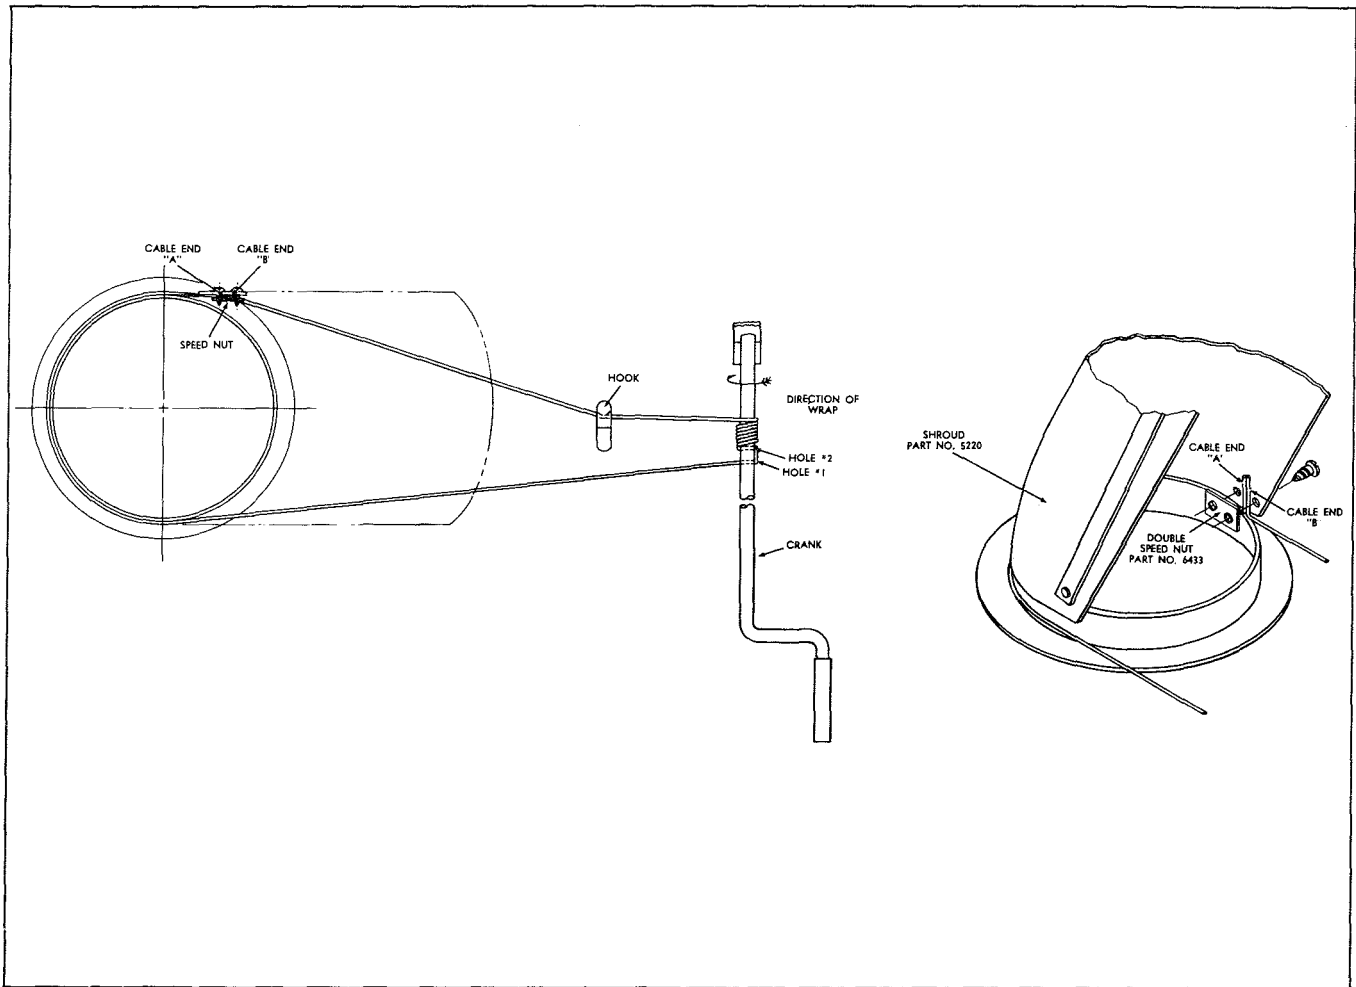

Figure 4
1. Face Shroud, Part No. 5220 to the right. (See Figure 4.)
3. Pull cable around the shroud and thread end "B" of cable through hole #1 then back through hole #2 in Crank, Part No. 8157, and then wrap seven (7) complete turns in direction shown in Figure 4. Finish last turn on top of crank. Pull cable end "B" behind the hook on the wrapper assembly and thread up under the double speed nut. Retighten screws just enough to retain cable.